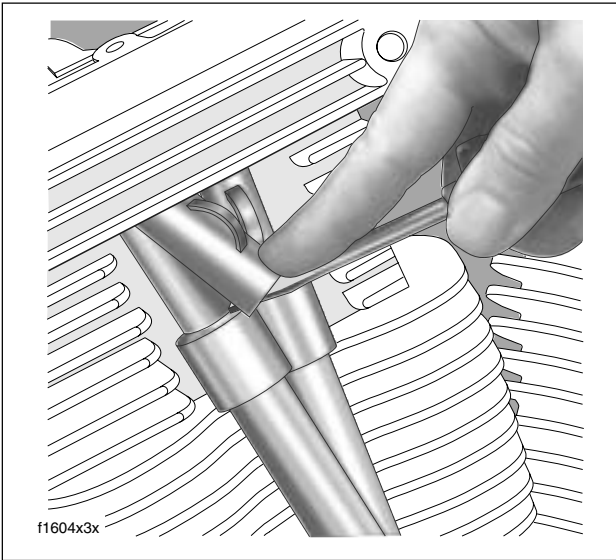

Figure 3-39. Install Spring Cap Retainer
- While simultaneously depressing spring cap with tip of screwdriver, use forefinger to slide bottom edge of spring cap retainer down shaft towards tip of screwdriver blade. As spring cap reaches its full length of travel, spring cap retainer should be in approximate position against upper push rod cover. See Figure 3-39.